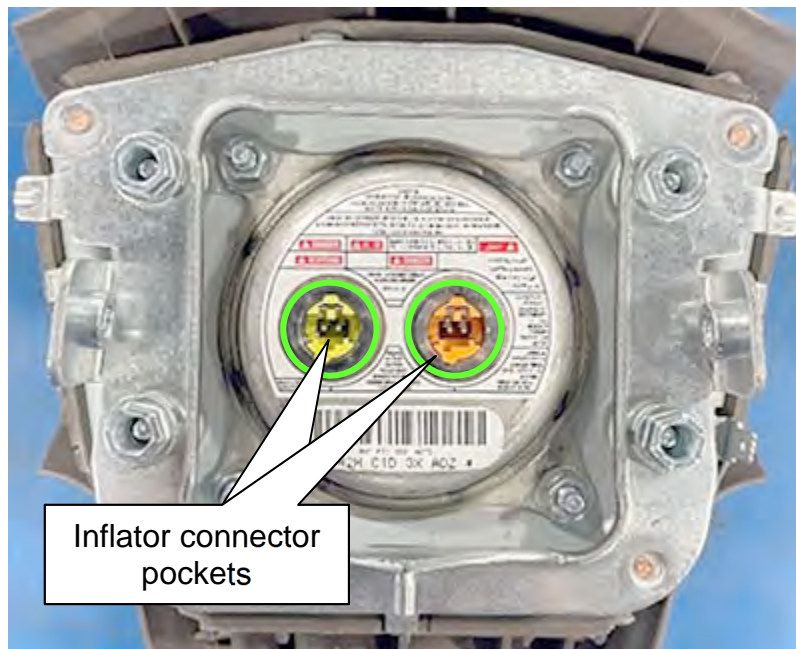

Figure 34
35. Visually inspect inflator connector pockets for debris, bent pins or shorting clip damage (Figure 34).